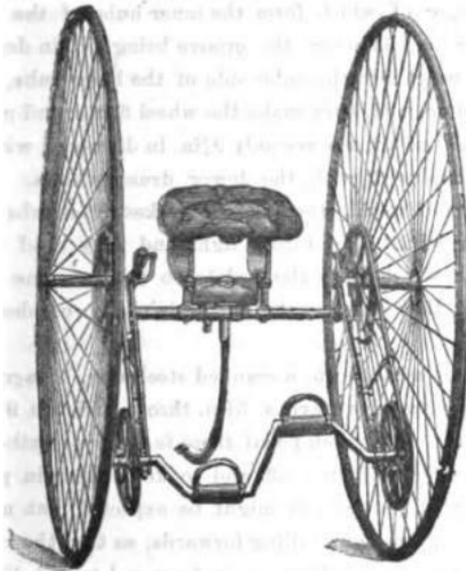

FIG. 15. THE OTTO BICYCLE.
53. The Otto Roadster (The Otto Bicycle Company, 118, Newgate-street, E.C.).—A glance at Fig. 15, p. 51, shows the design of this machine to be very singular, the wheels being side by side without any back or front support, the whole framework being balanced between them, the rod, coming down the centre and projecting, being to prevent tipping over backward. Taking the framework first, the centre rod or main support to keep the wheels apart is a steel tube, $1\frac{1}{2}$ in. in diameter by 24 in. long, and placed 5 in. behind and below the centre of the wheels; the ends just escape the large driving hubs; midway the "tail" is joined to it; this consists of a steel taper backbone gracefully curved backwards and downwards, having at its extremity a small roller in order to prevent back somersaults should the rider lean too far back; the tail is also of great assistance in other ways. In mounting, when seated in the saddle, the machine tilts backwards, and the guard rests on the ground, so that